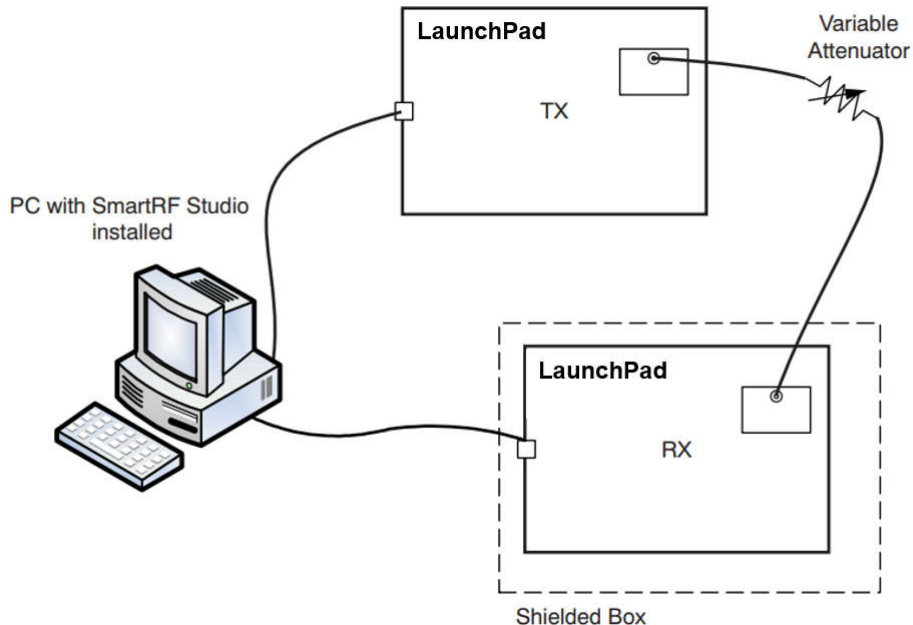
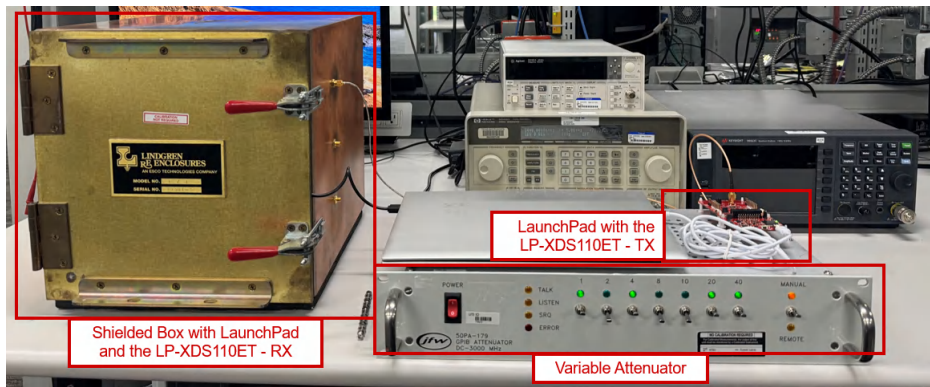
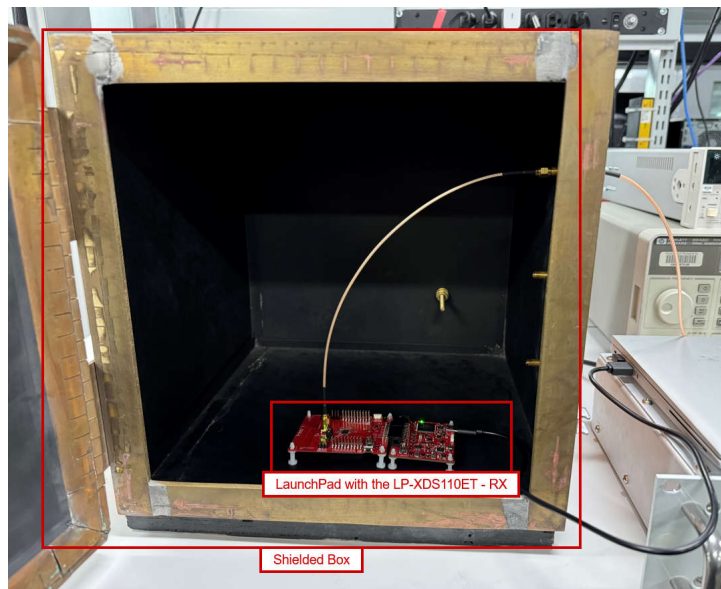

Figure 8-1. Receiver Sensitivity Test Setup Diagram
Figure 8-2. Receiver Sensitivity Test Bench Setup - Front
Figure 8-3. Receiver Sensitivity Test Bench Setup - Shielded Box
Test Environment: Figure 8-1 illustrates the test setup for receiver sensitivity.
- Step 1: Connect the instruments as shown on Figure 8-1, Figure 8-2, Figure 8-3, and Figure 8-3.